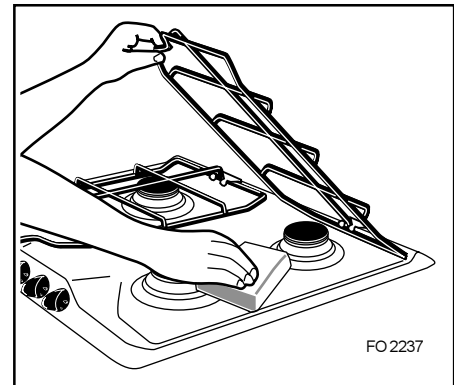

Fig. 2
**Model ZGF 681 IX:** The pan supports can be lifted for easier cleaning, as shown in Fig. 2.